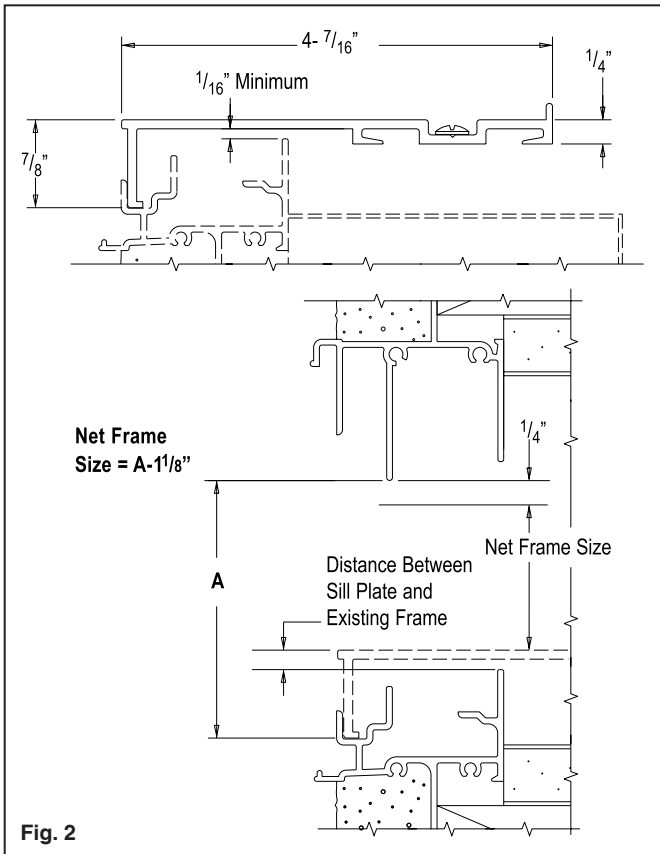

Fig. 2
A. Measure the opening in your existing window. The narrowest measurements in your window opening, excluding the fixed and sash panels, will be the “daylight opening”. Measure existing daylight opening at the ends and the center. See **Fig. 1**. Deduct 1/4” from both the width and height of the daylight opening dimensions. A deduction for the distance between the top of the Sill Plate and the tallest wall on the existing sill is also needed to determine the “net frame size”. See **Fig. 2**. Consider the best location for installing the Sill Plate in the existing sill and then take your measurements.